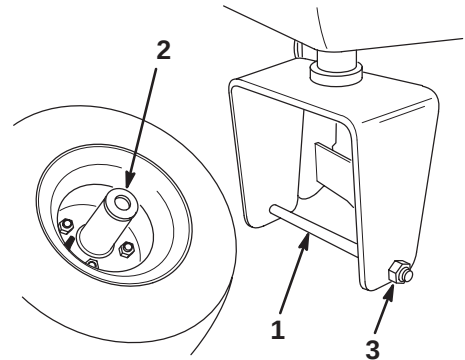

Figure 2
1. Remove the bolt and locknut from the wheel mount holes in the rear castor fork (Fig. 2).
2. Install the rear wheel in the castor fork. Insert the bolt into one of the mounting holes, install a spacer, and slide the bolt through the wheel (Fig. 2).